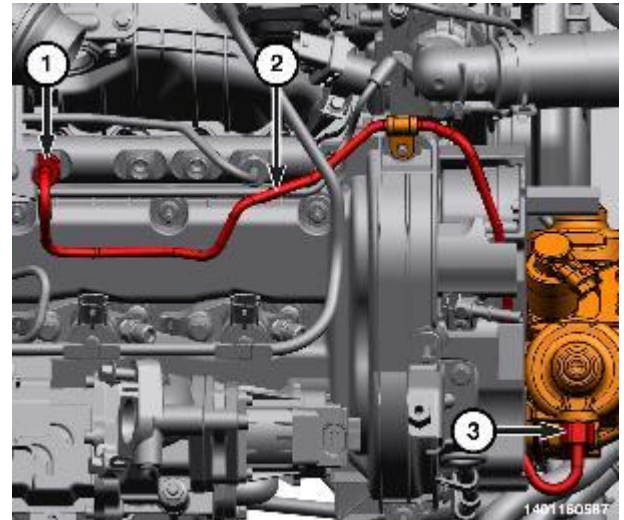

Figure 166 – Union Nuts
- 32. Unscrew the union nuts (1, 3) and remove and discard the fuel tube (2) (Figure 166).
49. Install a **NEW** fuel tube (2) and hand tighten the union nuts (1, 3). Tighten the union nuts (1,3) to 11 N·m + 75° (8 Ft. Lbs. + 75°) (Figure 166).